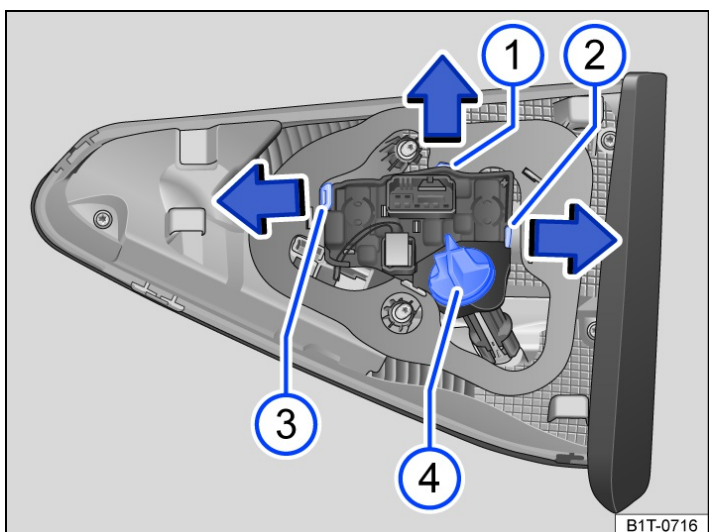

Fig. 2 In the trunk lid: removing the bulb holder.
3. Replacing the reversing light: Turn the bulb holder counterclockwise up to the stop and remove it toward the rear with the bulb → *fig. 2* ④.
Replacing the taillight: to release the bulb holder, press the catches in the direction of the arrow and remove the bulb holder toward the rear → *fig. 2* ① to ③.